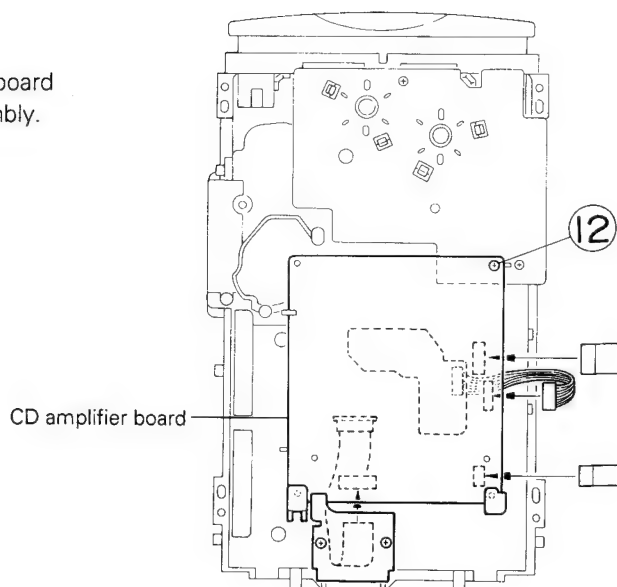

Fig. 5-16
■ **CD amplifier board** (Refer to Fig. 5-16.)
5. Remove one screw ⑫ retaining the CD amplifier board from the back of the CD traverse mechanism assembly.